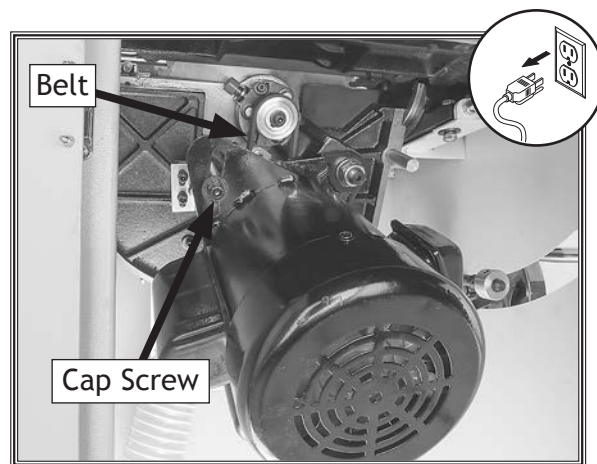

Figure 124. Location of cap screw for adjusting belt tension.
3. Loosen cap screw on motor (see **Figure 124**), and pivot motor up and down to verify it is movable.
3. Loosen cap screw shown in **Figure 124** and lift motor fully to remove tension on belt. Tighten cap screw, then roll belt off arbor and motor pulleys.